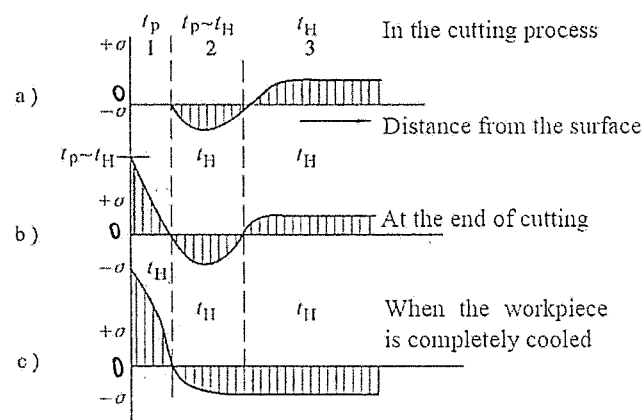

Figure 6
(2) 造成两批工件尺寸分布曲线变化的加工误差属于随机误差，随机误差应通过改变工艺过程或应用合适的加工方法来消除。
(3) 即允许的公差值 $T > \Delta + \Delta L$
12. Analyze the influences of cutting heat on residual stress on the machined surface of the workpiece in the cutting process, at the end of cutting and when the workpiece is completely cooled in the machining process based on Figure 6. Here, t_H representing room temperature when the workpiece has high plasticity and t_p refers to the temperature; $+\sigma$ and $-\sigma$ represent tensile stress and compressive stress, respectively; 1, 2 and 3 represent three layers of metal at different distances from the workpiece surface, respectively. (6 points)